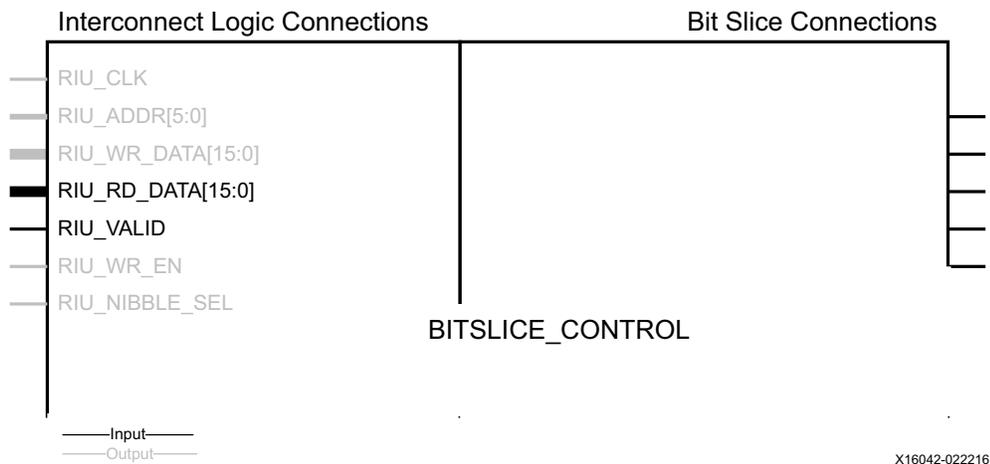

Figure 2-74: RIU in the BITSlice\_CONTROL
Using the register interface unit (RIU), the BITSlice\_CONTROL primitive can be turned into a processor peripheral block. The RIU interface is a set of 64 read/write, 16-bit registers, acting as a dynamically accessible processor peripheral interface providing full control over every function and feature of a nibble: control of all input, output, 3-state, and all delay lines (input, output and quarter), voltage and temperature (VT) tracking, clocking options, and built-in self-calibration (BISC). The RIU interface is represented in the BITSlice\_CONTROL component as shown in Figure 2-74.